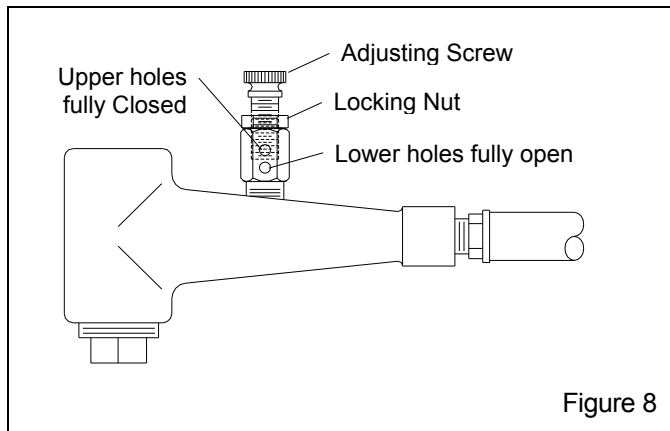

Figure 8
4.3 Media/Air Mixture, Figure 8
4.3.2 If media does not flow smoothly, loosen the locking nut, and adjust the metering screw until the upper holes in the metering stem are closed-off, and the lower holes are fully open, as shown in Figure 8. This adjustment is a starting point.